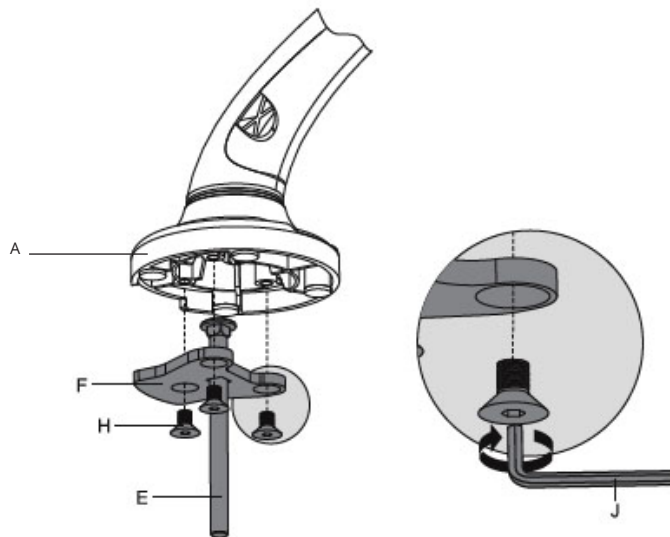

Figure 4
1. Insert the Grommet Bolt (E) into the Grommet Plate (F), see Figure 4
2. Attach the Grommet Plate (F) to the Extension Arm (A), secure them using Bolt (H) with Allen Key (J) turning clockwise until tight, see Figure 4.